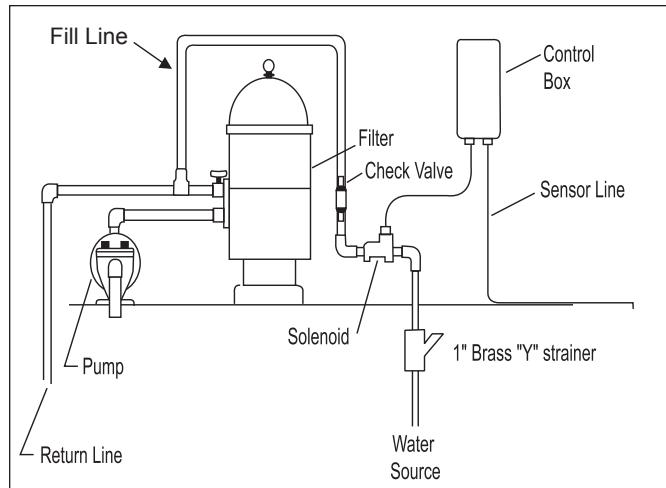
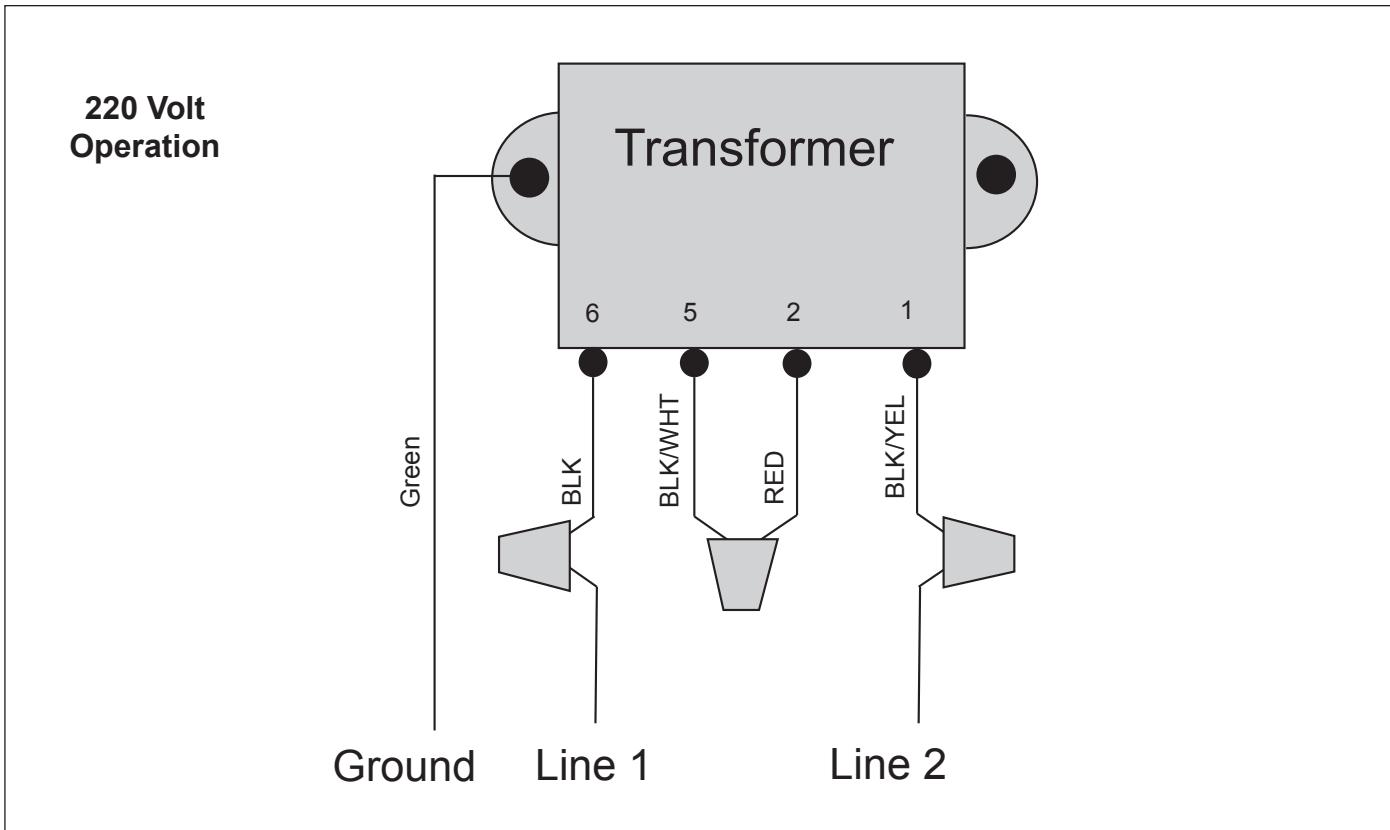

Figure 1. K-1100 or LEV110CK/2G Installation
Figure 4. K-1100, K-2300, and LEV110CK/2G Factory Wiring for 220 Volt Operation
Models K-1100, K-2300, and LEV110CK/2G are factory wired for 220 VAC service. If available electrical service is 110 VAC, the power supply wiring must be changed to operate on 110 VAC as shown in figures 4, and 5.
1. Mount the control box to the wall near the pump and filter. See Figure 1. ***Do not install the control box within 10 ft (3 m) of the pool edges.***
3. Check the source voltage. (All three (3) units are factory wired for 220 volt operation.) To modify the wiring for 110 volt operation, see *Section 3.3*.
4. For 220 volt operation, connect the black wire to line 1 and connect the black wire with the yellow stripe to line 2. See Figure 4.
Refer to Figures 4 and 5 and do the following:
1. Cut the splice cap connecting the black/white and the red wires. See Figure 4.